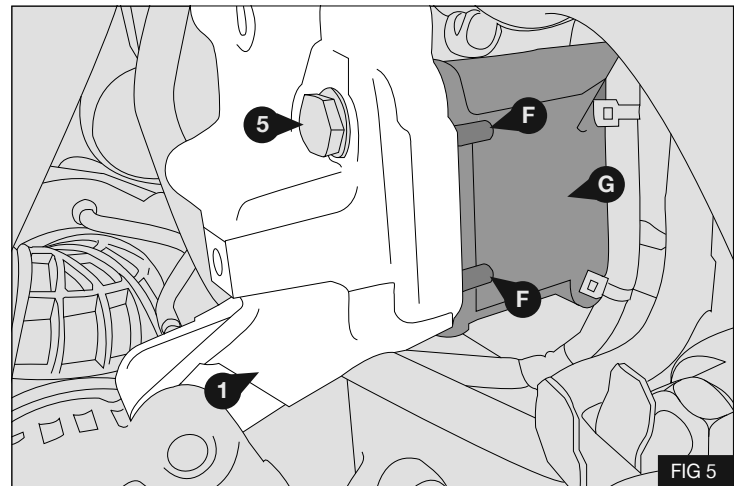

FIG 5
**Note:** Do not fully tighten bolts (5) at this stage.
4. Align the 6mm dowel pins (F) located in the mount bracket (1) so that they both touch the front face (G) of the engine - Fig 5
5. Torque the 3x M10x55 bolts (5) to 48Nm / 35.4lb-ft using a calibrated torque wrench - Fig 5